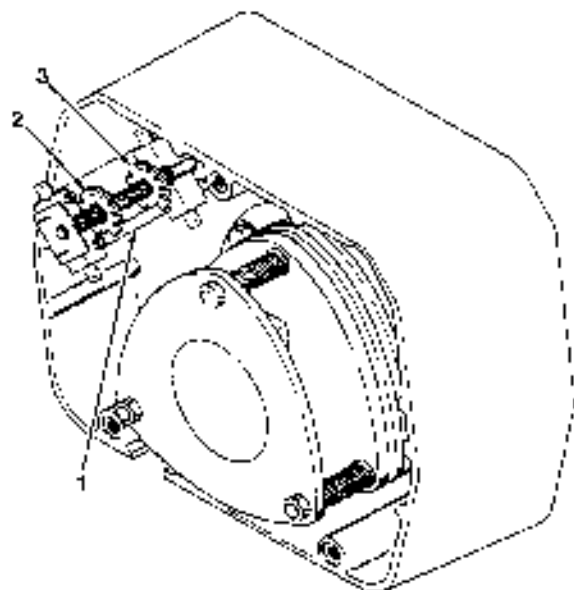

FIGURE 5-1. LIMIT SWITCH ADJUSTMENT
Limit switches are provided to protect the hoist against damage resulting from overtravel. For easy identification, the upper (No. 2, Figure 5-1) and lower (No. 3, Figure 5-1) limit switch adjusting nuts are colored brass and zinc respectively. Each limit switch nut has ten slots for adjustment, and the increment of adjustment is such that one slot is equivalent to one link of chain travel. Care should be exercised when adjusting either limit of travel. When a geared type limit switch is furnished (long lift hoists) each adjustment is equal to 2 links of chain, or 30 links per revolution.
- 3.) With a screwdriver, pry the spring guide plate (No. 1, Figure 5-1) out of the slots in the colored limit switch nuts (Nos. 2 and 3).
- c. With a screwdriver, push the spring guide plate (No. 1, Figure 5-1) out of the slots in the limit switch nuts. Turn the brass slotted nut (2) back to about the center of the threaded screw. DO NOT DISCONNECT THE WIRES FROM THE LIMIT SWITCHES.